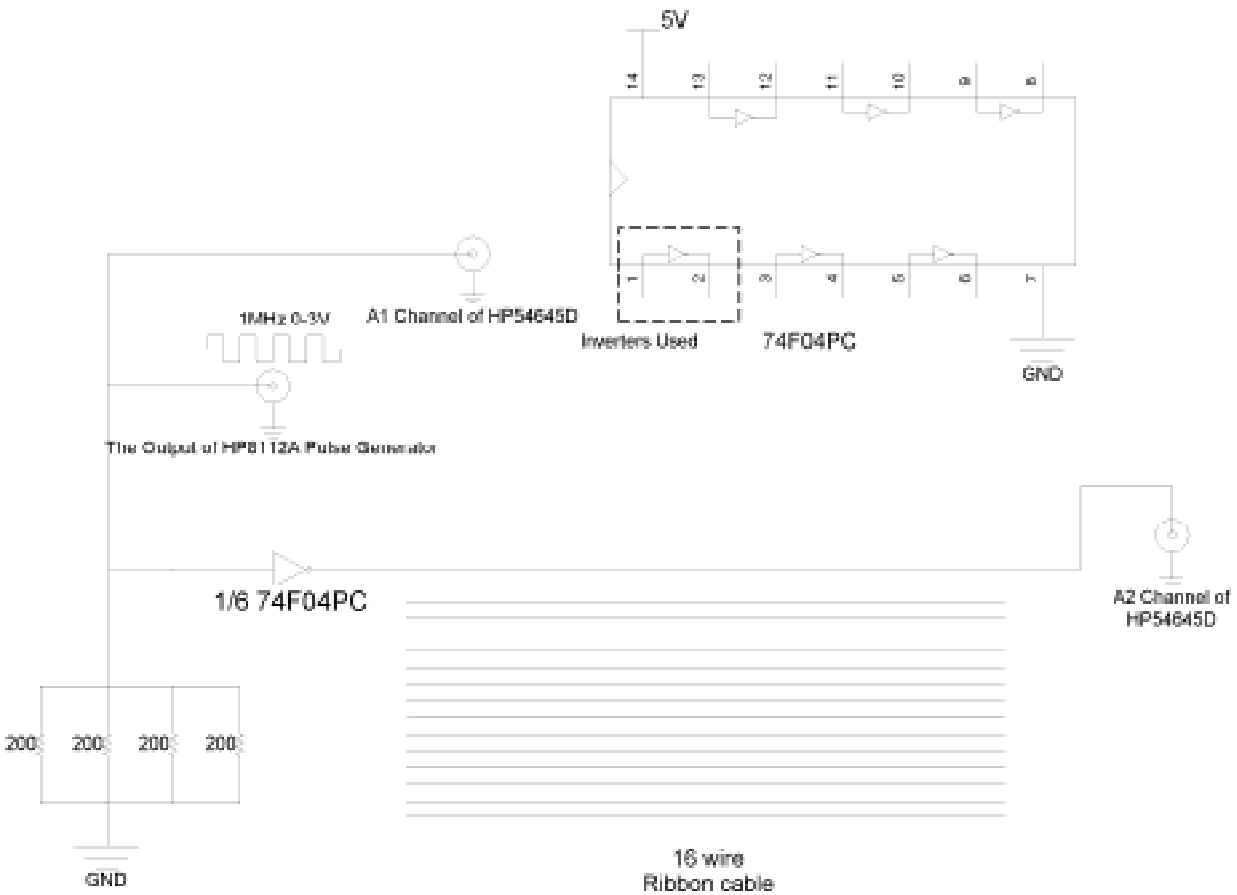

Figure 5 Schematic for Sec. 6.5.1-2
1. Disconnect your ring oscillator circuit and hook up a 1 MHz 0-3V square wave from the 8112A pulse generator to the pin 1 of the hex inverter (actually, any inverter input will do). Hook up $50\ \Omega$ from this pin to ground – this presents the proper load to the pulse generator so that the voltage you set is the voltage you get. Use four $200\ \Omega$ resistors in parallel rather than a single $50\ \Omega$ resistor. Connect the output of the inverter to one of the wires on the ribbon cable. Refer to Figure 5 for schematic.